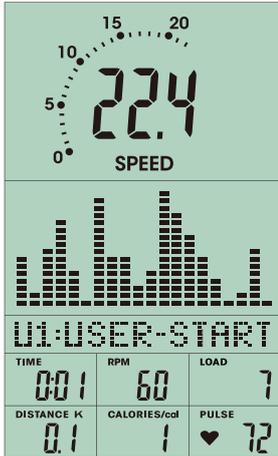
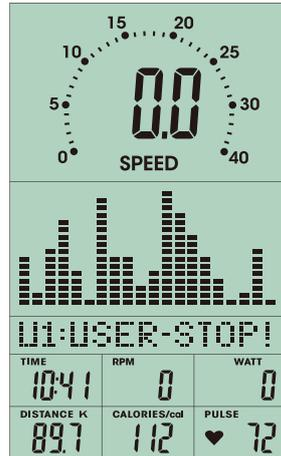

FIGURE 25
FIGURE 26
1. After selecting USER PROGRAM mode, the first column of the profile will blink (FIGURE 25). User may turn the toggle wheel to adjust the resistance level (FIGURE 26) to create his /her own profile.